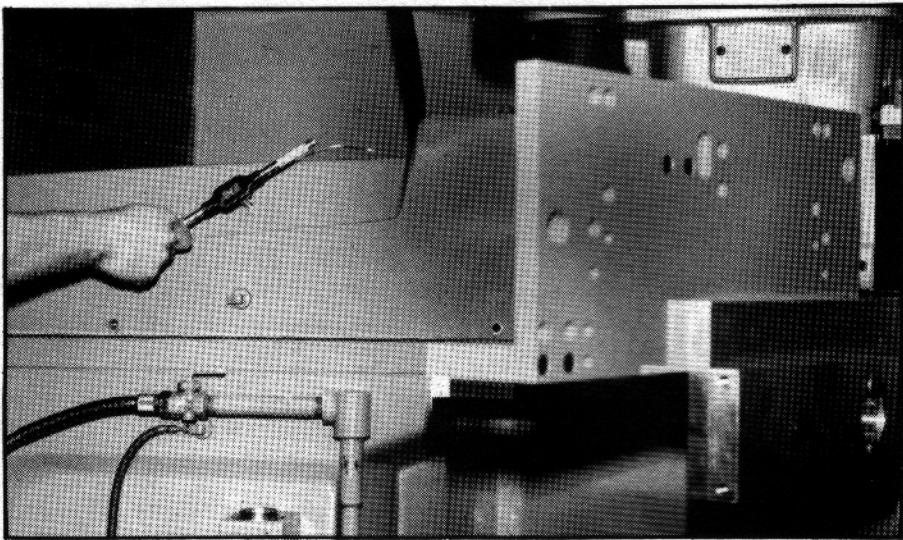
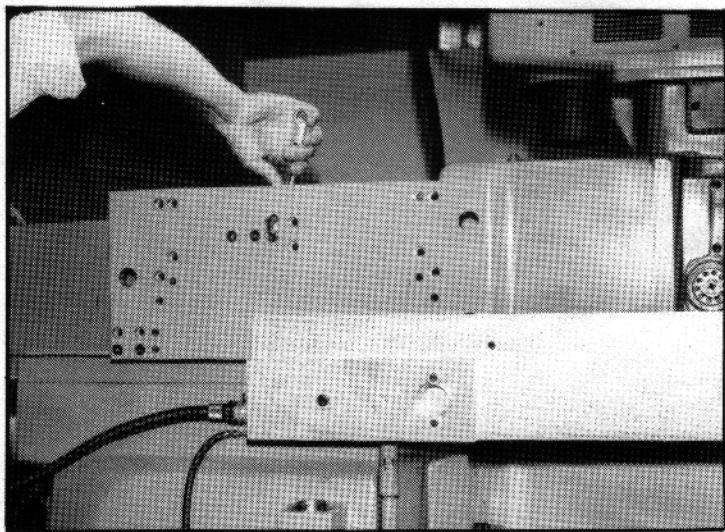

FIG. 2.11 TAP OPERATION
FIG. 2.12 BOLTING THE ADAPTER PLATE TO THE RAM
10. Tap the three holes (see figure 2.11) for 3/8-16 UNC-2B or metric equivalent and bolt the mounting adapter plate to the mill using 3/8-16 cap screws or metric equivalent (See figure 2.12).